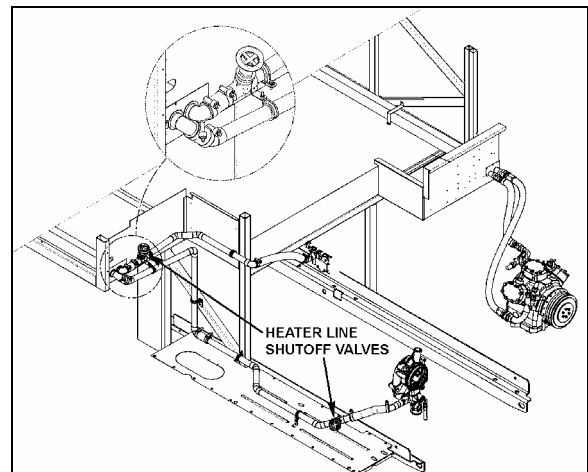

FIGURE 5: HEATER LINE SHUTOFF VALVES (W5)
1. Stop engine and allow engine to cool. Close both heater line shutoff valves (Refer to figures 5, 6, 7 & 8)